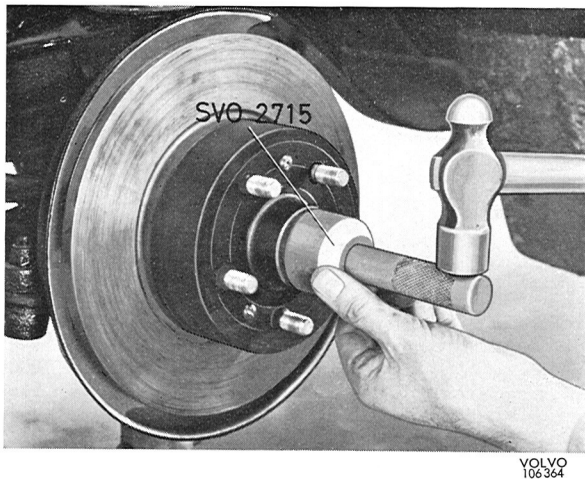

Fig. 7-18. Grease cap removal
4. Remove the grease cap with tool 2715 (Fig. 7-18). Remove cotter pin and castle nut.